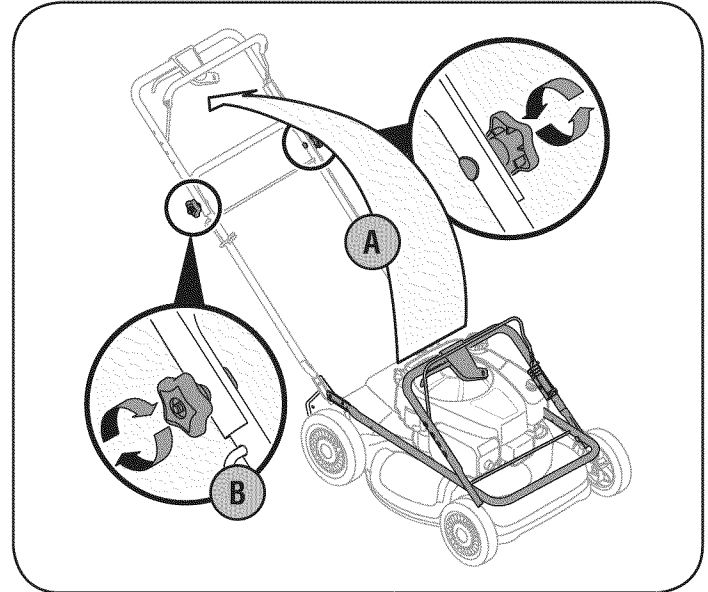

Figure 1
- A. Pull up and back on upper handle as shown in Figure 1. Make certain the lower handle is seated securely into the handle mounting brackets. Do not crimp cables while lifting the handle up.